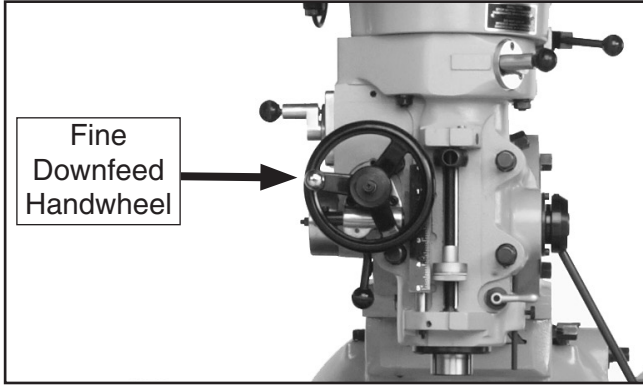

Figure 15. Fine downfeed handle installed.
- Slide the fine downfeed handwheel onto the shaft on the front of the head, as shown in **Figure 15**.